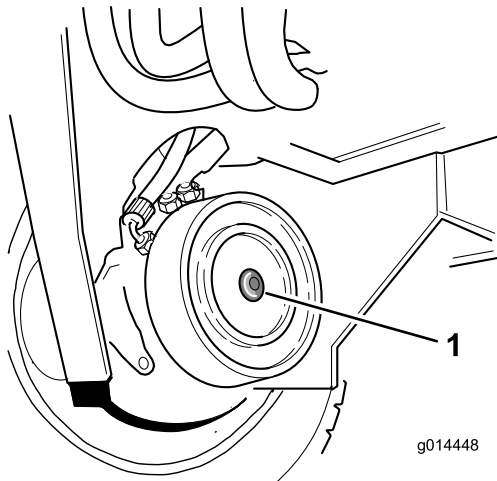

Figure 45
5. Tighten the setscrew into the threaded hole in the brake piston until the brake is released (Figure 45).